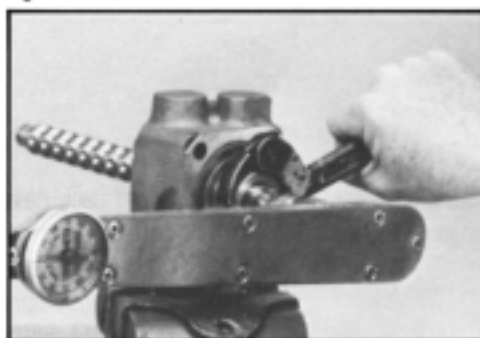
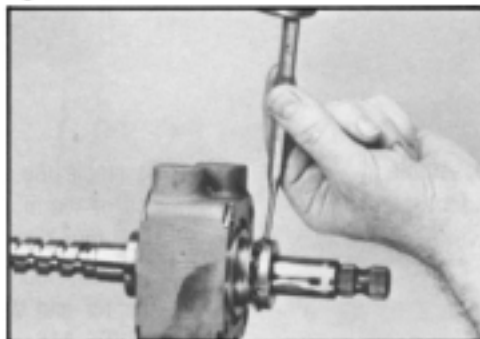

Figure 110
Figure 111
11. Torque the bearing nut (9) to 30 ft. lbs. (41 N m) to seat the components. Back the nut off and then torque to 15-20 ft. lbs. (20-27 N m). SEE FIGURE 110. Back the nut off approximately 20 degrees and bend one tang of lock-washer (10) into a matching nut slot. SEE FIGURE 111. A hook type spanner wrench, a 3/4 or 11/16 inch 12 point socket and a ft. lb. (N m) torque wrench required.